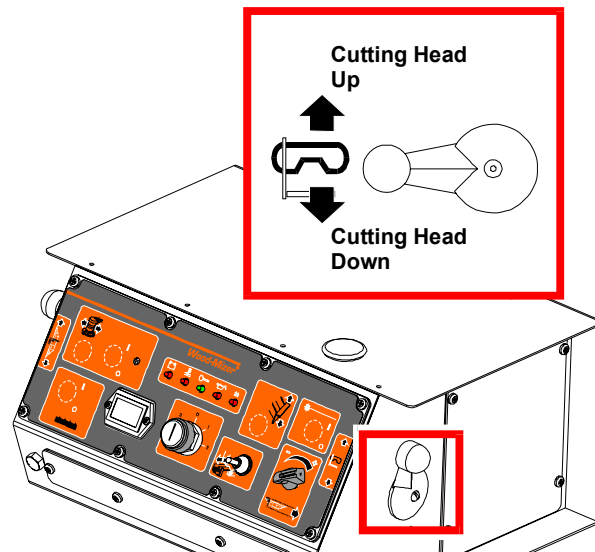

FIG. 2-12
**See Figure 2-12.** The up/down switch is located on the far right side of the control panel. Push the switch up to raise the cutting head; push the switch down to lower the cutting head. Hold the switch in